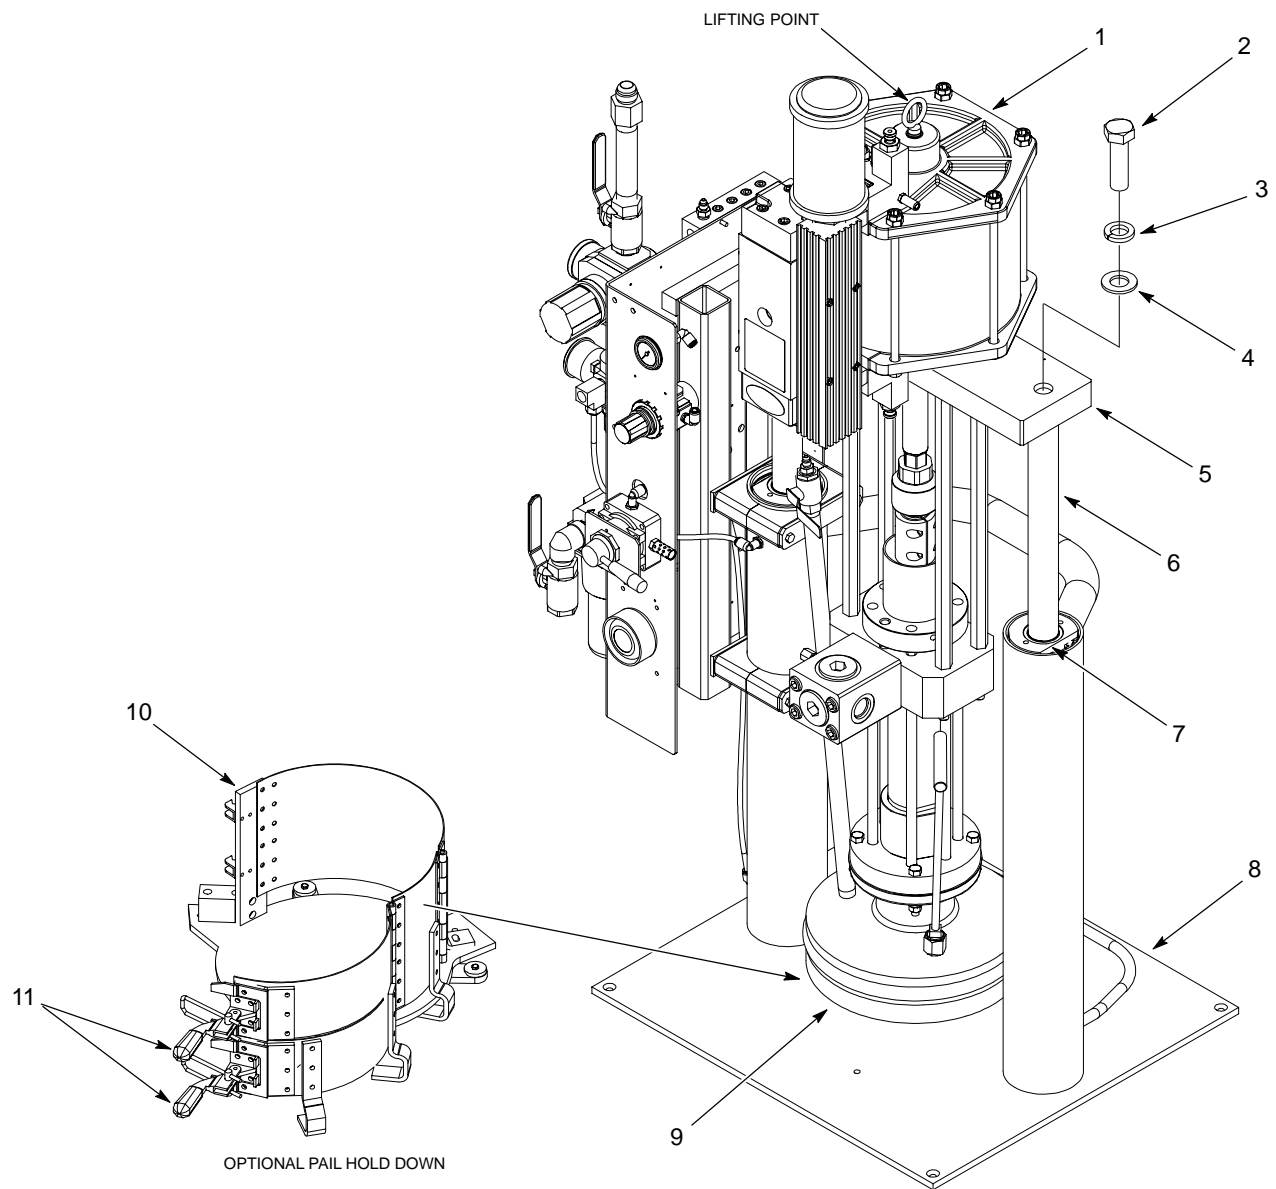

Figure 4 Removing the Pump Assembly
1. Optional Pail Hold Down: Unlock the latches (11) and open the clamshell (10).
2. See Figure 4. Lower the follower plate (9) to the base of the pail frame (8).
4. Remove any device or bracket that is installed to the cylinder shafts (6) or cylinder heads (7).
6. Remove the screws (2), lock washers (3), and flat washers (4) securing the crossover (5) to the cylinder shafts (6).
7. Use the lifting device to remove the pump assembly (1) from the pail frame (8). Secure the pump assembly to prevent it from tipping.
1. See Figure 4. Use the lifting device to install the pump assembly (1) onto the small frame (8).
2. Apply Loctite 242 to the threads of the screws (2). Secure the crossover (5) to the cylinder shafts (6) using the screws, lock washers (3), and flat washers (4). Tighten the screws to 190–195 ft-lb (258–264 N•m).
3. Optional Pail Hold Down: Close the clamshell (10) and lock the latches (11).
4. Install any device or bracket that was removed from the cylinder shafts (6) or cylinder heads (7).